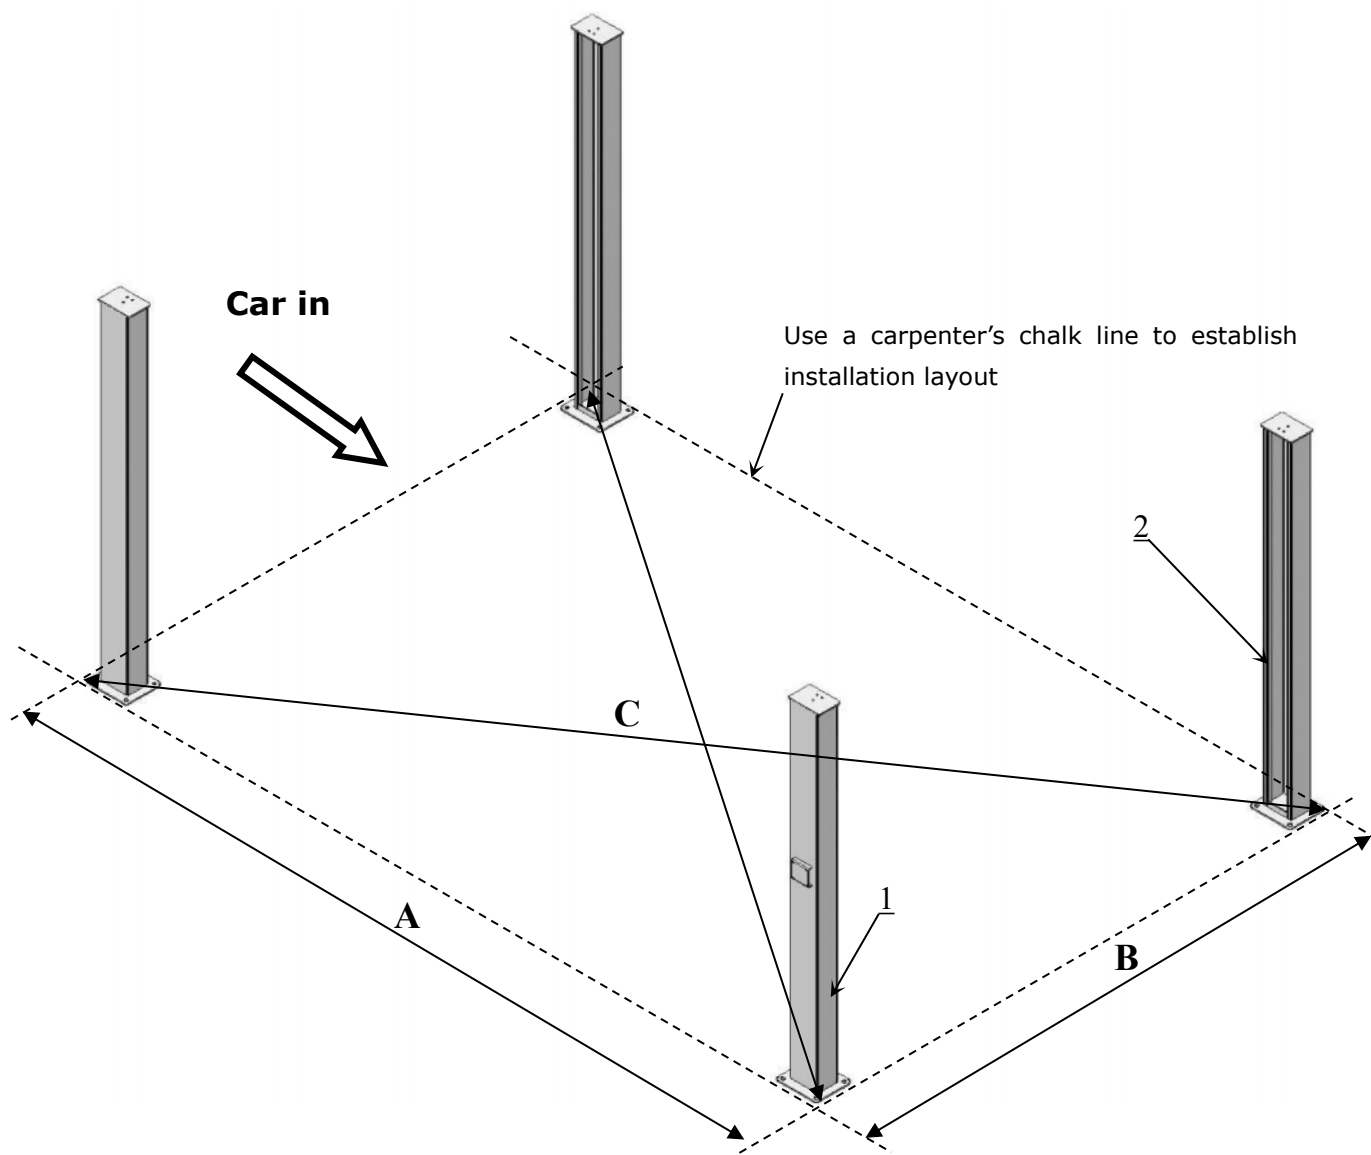

Fig.13
C. Use a carpenter's chalk line to establish installation layout (see Fig.13) .